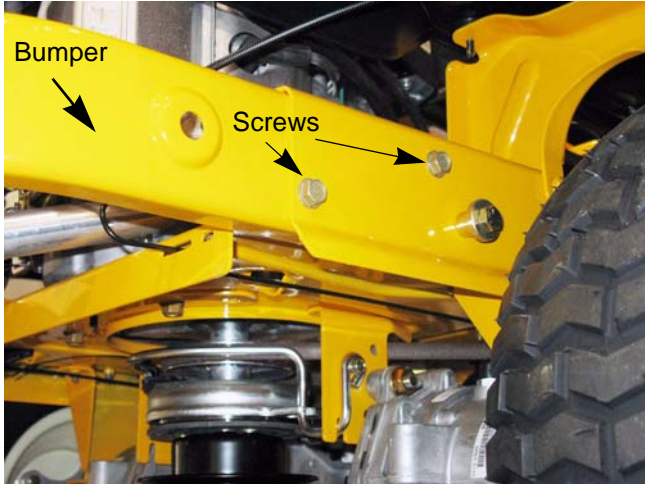

Figure 2.1
1. Remove the four screws (two on each side) that hold the rear bumper in place using a 1/2" wrench. See Figure 2.1.